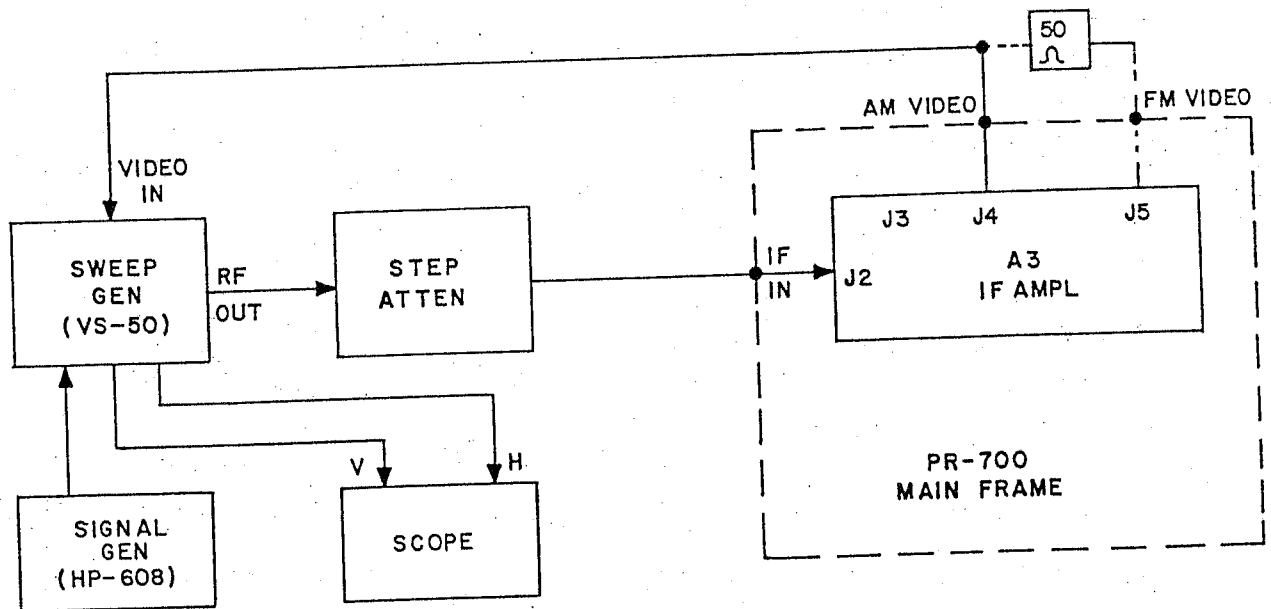

FIG. 5.10.2.1
Connect a sweep generator and step attenuator to the input of A8B1 as shown in Figure 5.10.2.1.
5. Return all connections to the form shown in the block diagram (Figure 5.10.2.1).